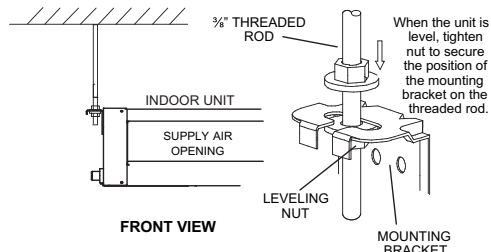

Fig. 14 — Threaded Rod
3. Secure the unit in position with locknuts and washers on both sides of the mounting bracket. Ensure that the threaded rod does not protrude more than two inches below the mounting brackets as shown in Fig. 14.